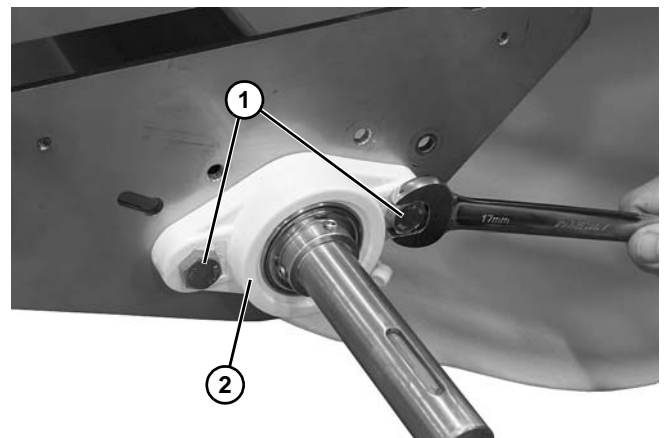

Figure 113
6. Remove two screws (Figure 113, item 1) from the bearing housing (Figure 113, item 2) on both sides of the center drive.